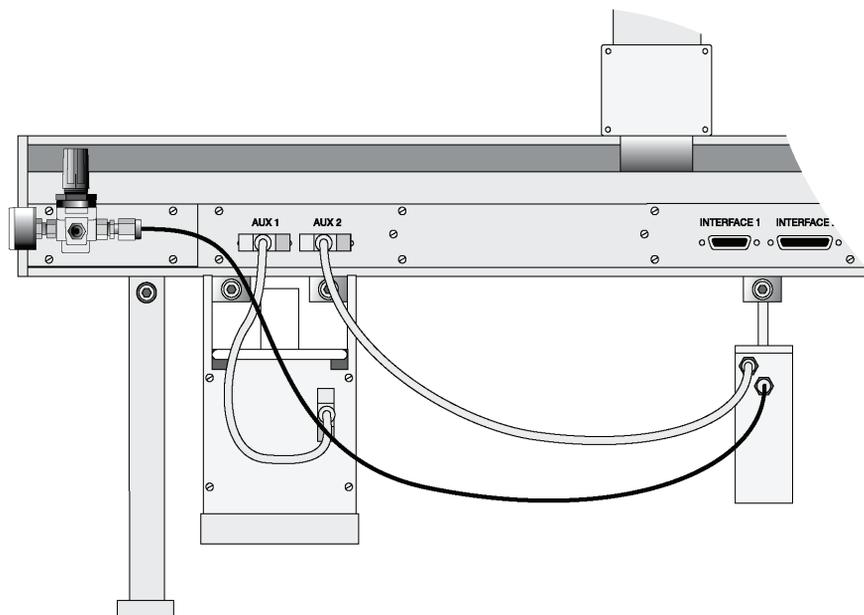

Figure 2 SPME Fiber Conditioning Station, Electrical and Gas Connections
- 1 Connect the open end of the cable from the SPME Fiber Conditioning Station to the “AUX2” connector on the Agilent GC Sampler 80/120. See Figure 2 on page 20.